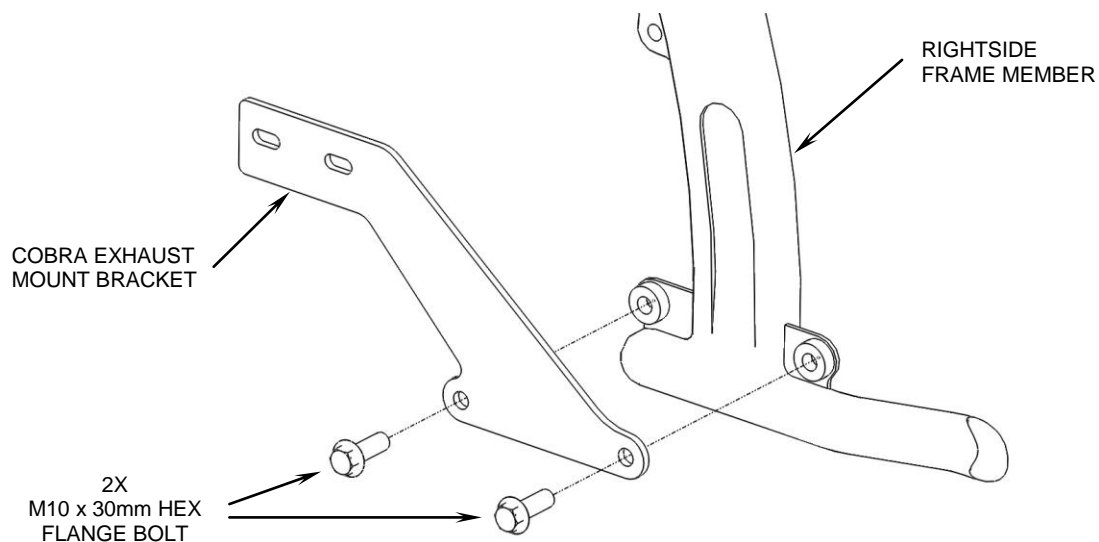

FIGURE 1
3. Remove the stock exhaust system and stock exhaust mount. Save the (4) acorn nuts that attach the headpipes flanges to the cylinders for later use during installation.
4. Install the supplied exhaust mount bracket using the (2) supplied M10 x 30 mm hex flange bolts, but **DO NOT FULLY TIGHTEN**. See Figure 1.